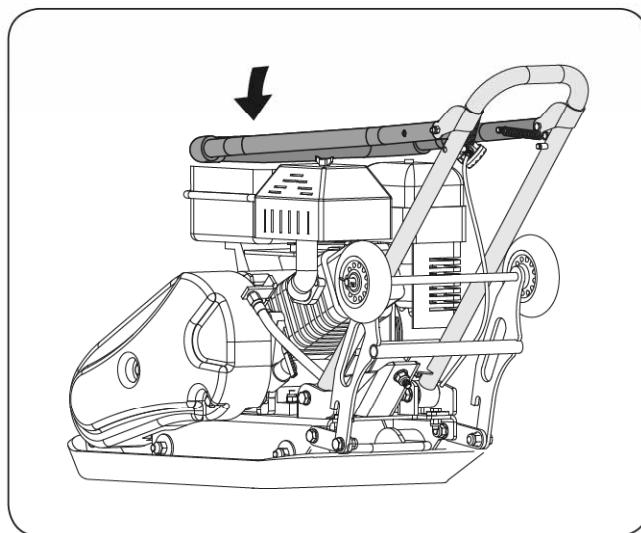

Figure 10
- Carefully fold the upper handle down. Do not allow control cables to become pinched or bent. (See **Figure 10**)